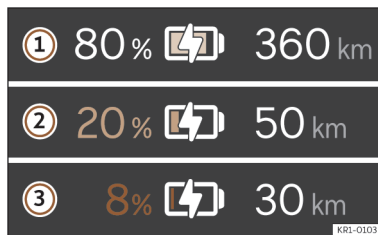

Fig. 2 On the digital instrument cluster: range and reserve indication.
The current state of charge of the high-voltage battery is indicated by the  symbol on the digital instrument cluster >>> **Fig. 2** ①. The battery symbol will be more or less full depending on the state of charge of the battery.
The vehicle range is displayed in kilometres (km) or miles (mi) depending on the selected setting >>> **Fig. 2** ②.
Reserve area >>> **Fig. 2**